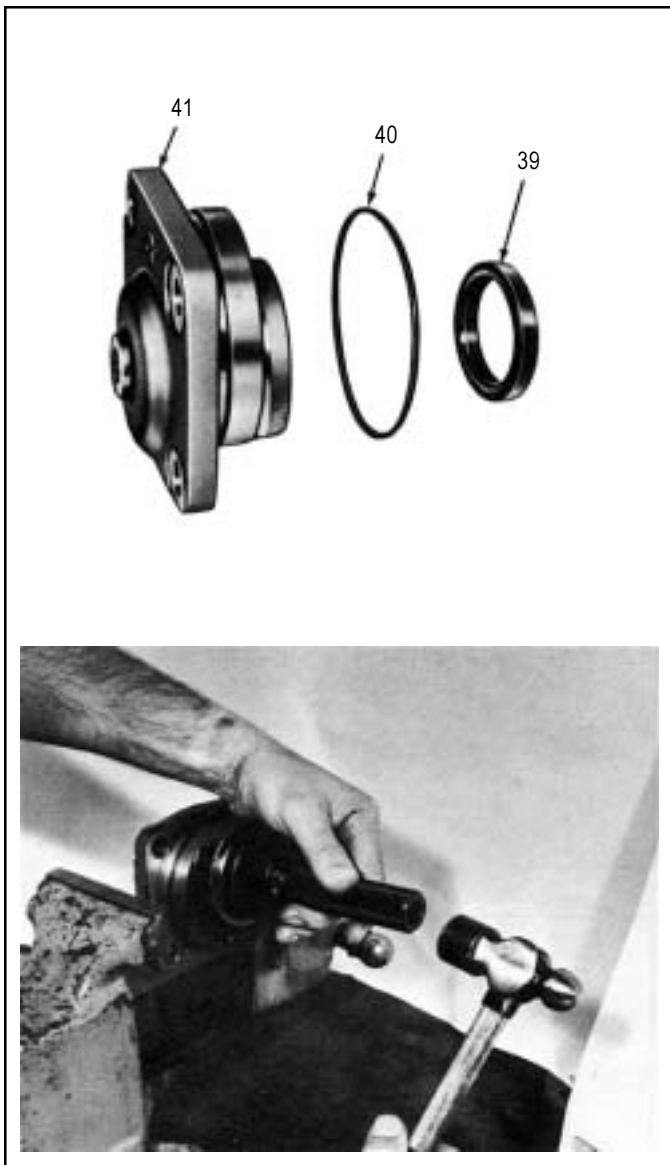

FIGURE 45
9. Install the side cover seal(39) on tool 297675 so that the seal's lip groove rests against the large diameter of the tool. Insert the tool with the seal installed into the side cover and using a mallet drive the seal into place. Install the o-ring(40) in its groove on the side cover. (See Figure 45)